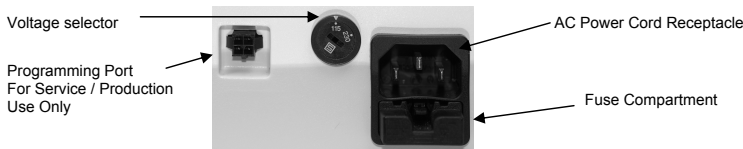

Figure 2 - Back of device
1. Unpack the console and check that the Voltage Selector is set to the proper voltage. Use the 115V position for 110-120V 60Hz voltages, and the 230V position for 220-250V 50Hz voltages. Always unplug the unit before changing fuses or adjusting the voltage selector. To change voltage, use a flat head screwdriver to turn the Voltage Selector on the back of the console to the proper voltage setting. To change voltage, replace the fuse to match voltage (see Specifications). Replace with 0.3 A, 230/250V slow blow fuse (0,6 A for 115V). For replacement, press on the black plastic clip of the fuse, pull out and replace with the correct fuse. *See Fig. 2*